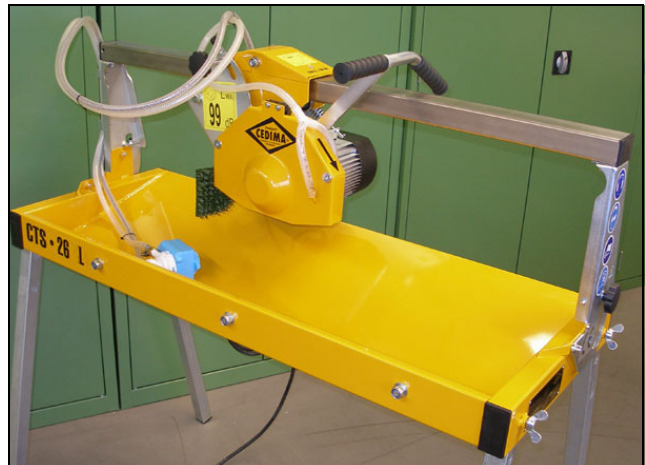

Fig. 3.2 Upper part mounted
- Place the upper part vertically on to the seat/holder on the frame (water container) and secure with the respective screws, washers and star-grip screws (Fig. 3.2 and 3.3)!